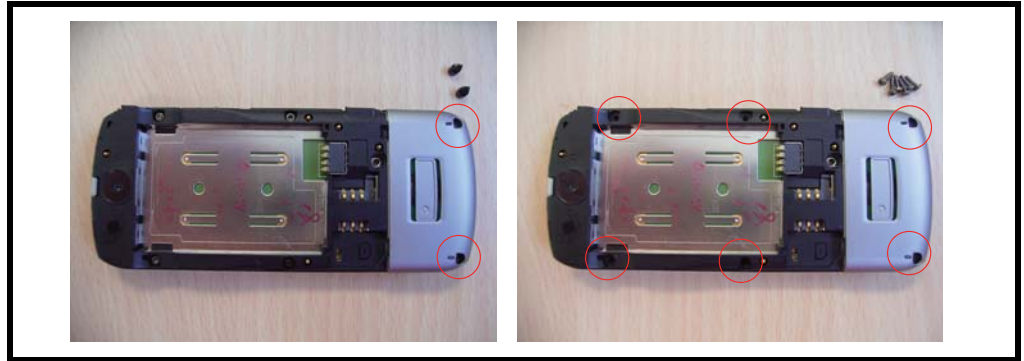

Figure 7. Removing 2 Screw Caps and 4 Screws
2. Remove 2 screw caps with tweezers and 6 screws with T5 pit head screwdriver as shown in Figure 7.